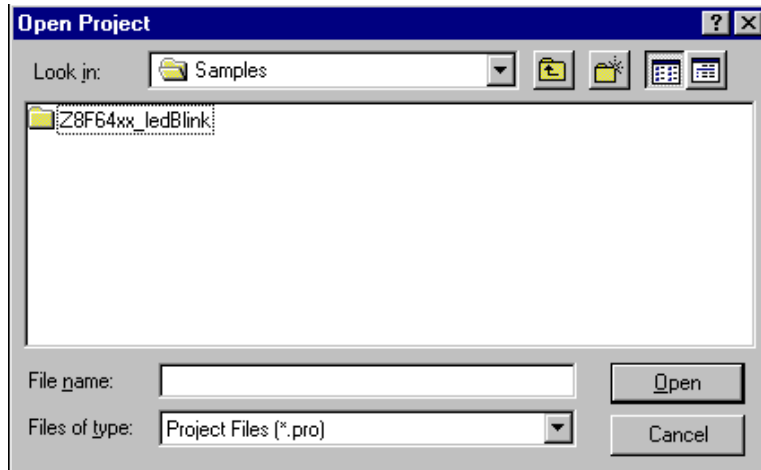

Figure 11. Sample Directory
5. Select samples. The samples folder appears (Figure 11).